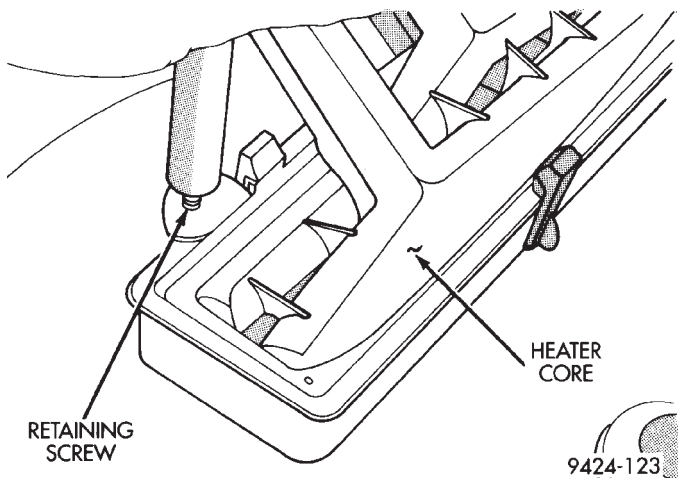

**Fig. 48 Heater Core**
- (1) Push new heater core into the unit housing.
- (2) Fasten heater core to unit housing with screws provided with new heater core (Fig. 48).
- (3) Install unit housing into vehicle.
- (4) Reconnect battery.